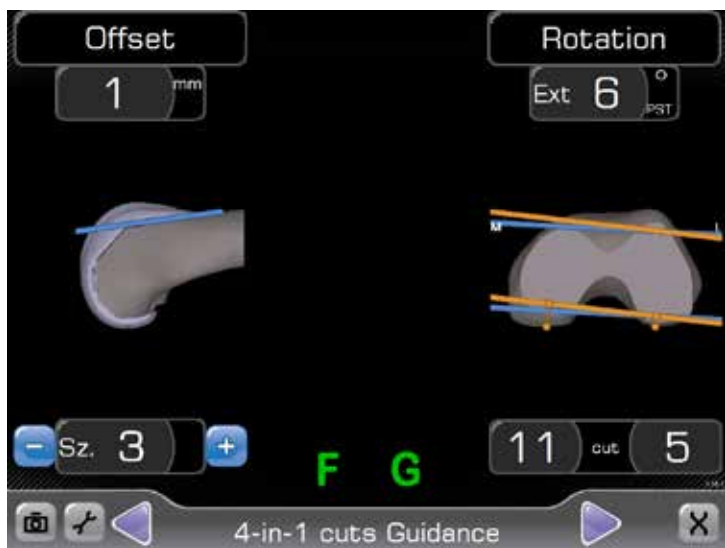

Figure 28
With the GuideTracker (G) assembled to the Blade Drill Guide, position the Blade Drill Guide against the distal femur. Adjust the position of the Blade Drill Guide against the distal femur to align the orange line with the blue line on the display. The blue lines indicate the planned resections. The orange lines represent the resection based on the position of the Blade Drill Guide. When the alignment of the Blade Drill guide is within 1mm and/or 1-degree of the planned position, the orange line will change to green (Figure 28).